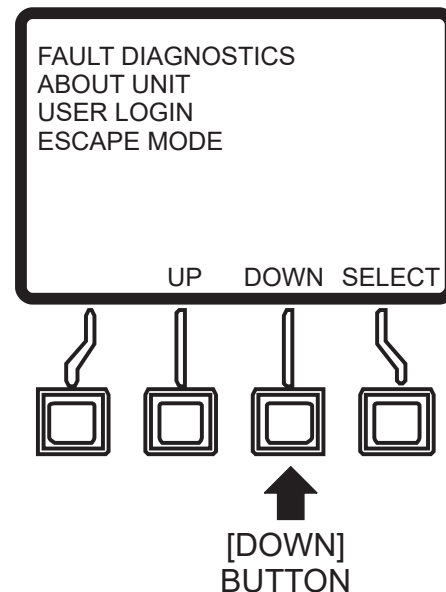

Figure 92. Main Menu (Down Button)
4. Press the **[DOWN]** button (Figure 92) to scroll to the Escape Mode item.